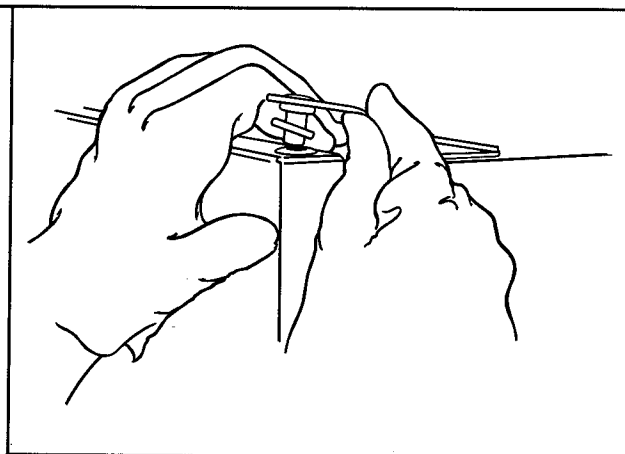

Figure 10
- c. Save plastic top hinge plate spacer(s) and all unattached plastic hinge spacer ring(s) from underneath top hinge plate pin and use in Step 12. See Figure 10.